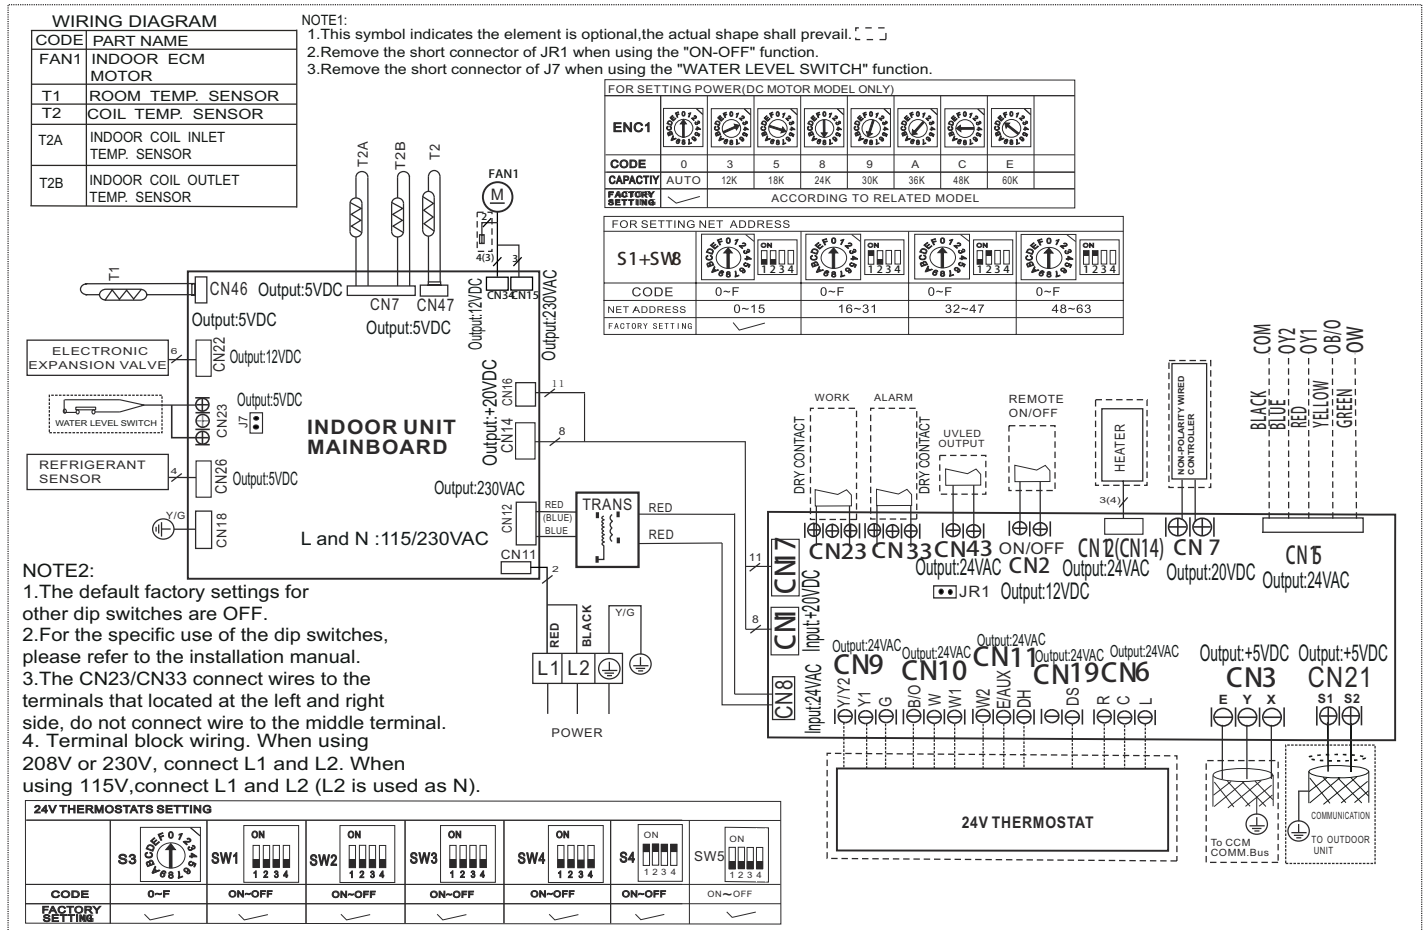

Fig. 43 —Wiring Diagram Sizes 18K - 24K
8. Connect the wiring from the outdoor unit per the wiring diagrams (see Figure 43 and 44).